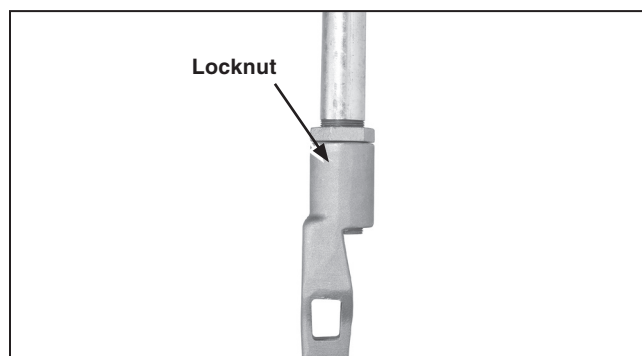

Figure 17. Installing the lowest operating pipe section into the operating handle assembly.
**STEP 28.** Install the lowest operating-pipe section by threading one end of the pipe into the coupling on the operating handle. Approximately ¼-inch (6 mm) of thread should extend through the coupling. Tighten the locknut. See Figure 17.